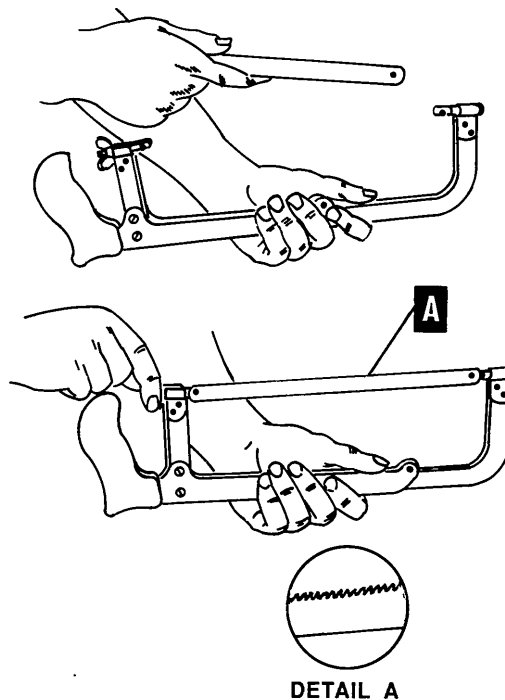

Figure 4-99. Installing a Hacksaw Blade
(1) Install the blade in the hacksaw frame as shown in figure 4-99. Ensure that the teeth point away from the handle. Tighten the wing nut so that the blade is under tension.